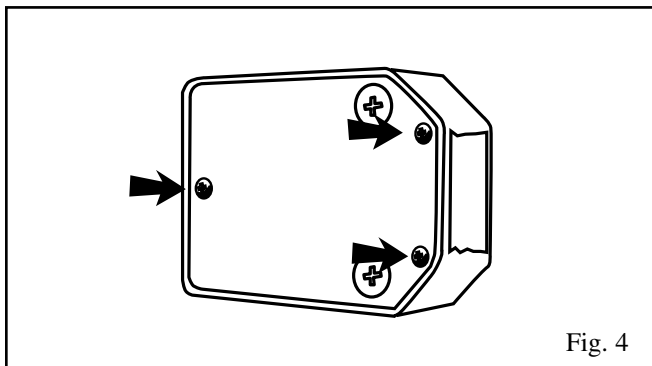

Fig. 4
5. Replace plate and (3) small screws. See Fig. 4.